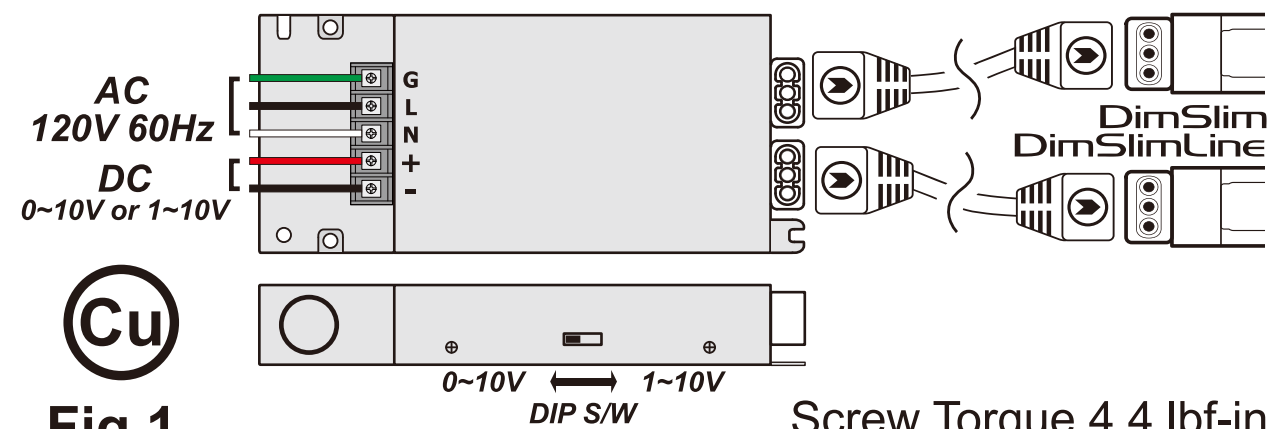

Fig.1
3. Wiring both AC and DC same as Fig.1